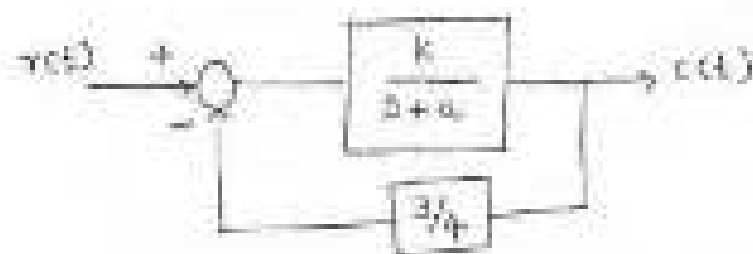

Figure 3-8
- Q) a) The block diagram for a jet pipe amplifier is shown in figure 3-8. Determine  $k$  and  $a$  such that the amplifier will have a steady state gain of 1 and a time constant of 0.25 sec. [8]